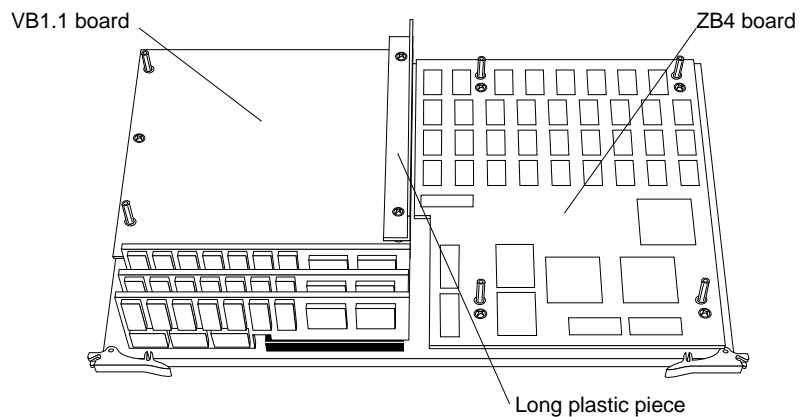

Figure 2-4 Graphics board set removed
- Put the board set on an anti-static work surface, if possible, with the VB1.1 card on the left and the ZB4 board on the right, as shown in Figure 2-4.